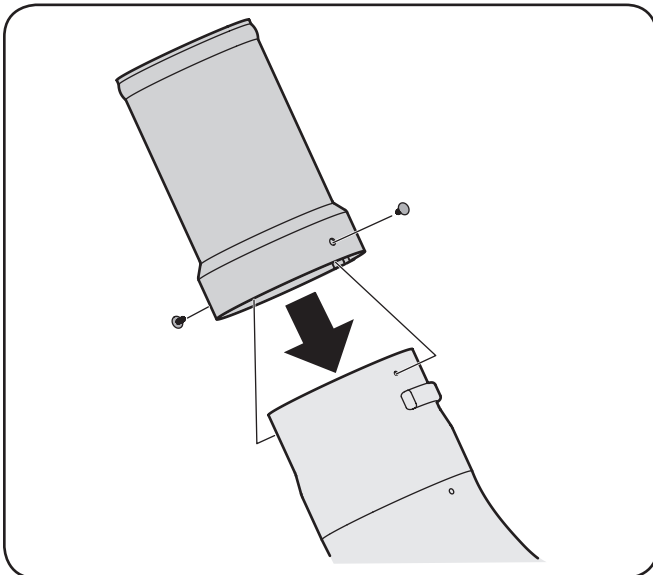

Figure 4-24
7. Install the chute adapter onto the chute elbow by lining up the tabs and sliding the adapter over the chute elbow, as in Figure 4-24. Secure the chute adapter by installing two ratchet clips (726-3046), included in hardware pack 689-00163, into the holes provided.